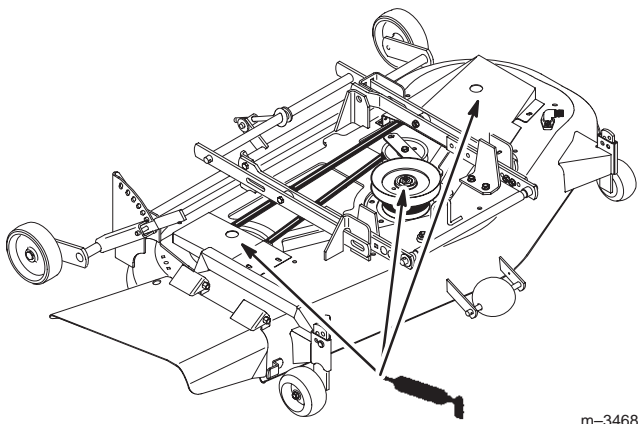

Figure 32
2. Clean the grease fittings (Fig. 32) with a rag.
4. Connect a grease gun to each fitting (Fig. 32).